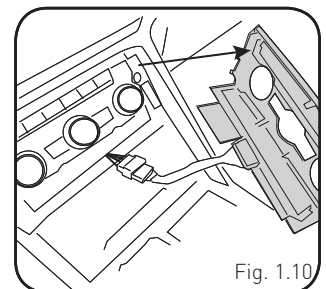

Fig. 1.10
- Using a panel tool, pry outward on the trim panel around the climate controls. Disconnect the harness from the start/stop switch. (Fig. 1.10)